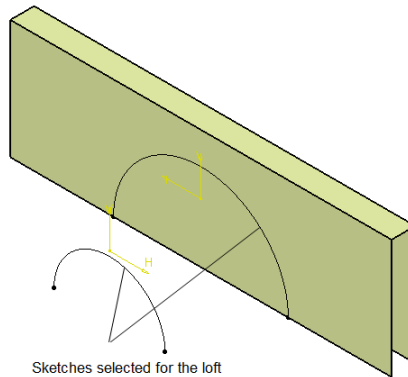
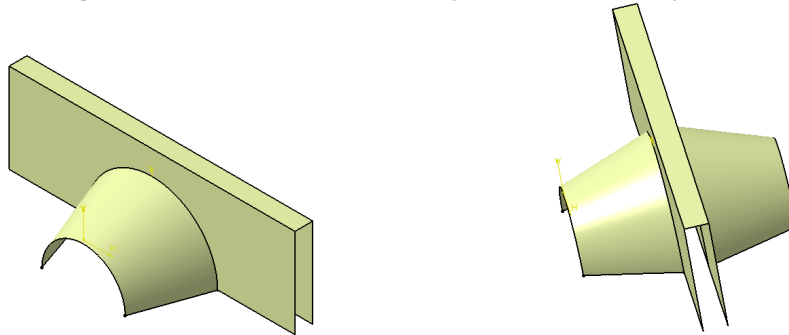

Figure 17-106 Two sketches selected for multi-sections surface
Figure 17-107 Multi-sections surface created
2. After drawing the sketches, as shown in Figure 17-106, choose the **Multi-Sections Surface** tool from the **Surfaces** toolbar. Select both of the sketches to create a lofted surface, as shown in Figure 17-107.